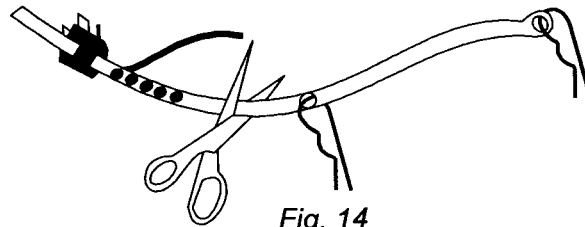

Fig. 14
18. Cut the shipping strap at the words "CUT HERE" and slide it off the power supply plug. (Fig. 14)